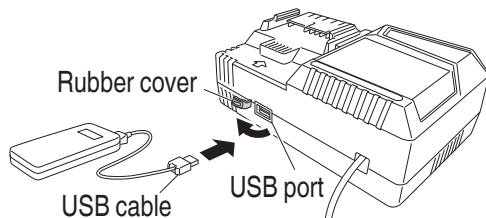

Fig. 15
- (2) Connect the USB cable. (Fig. 15)